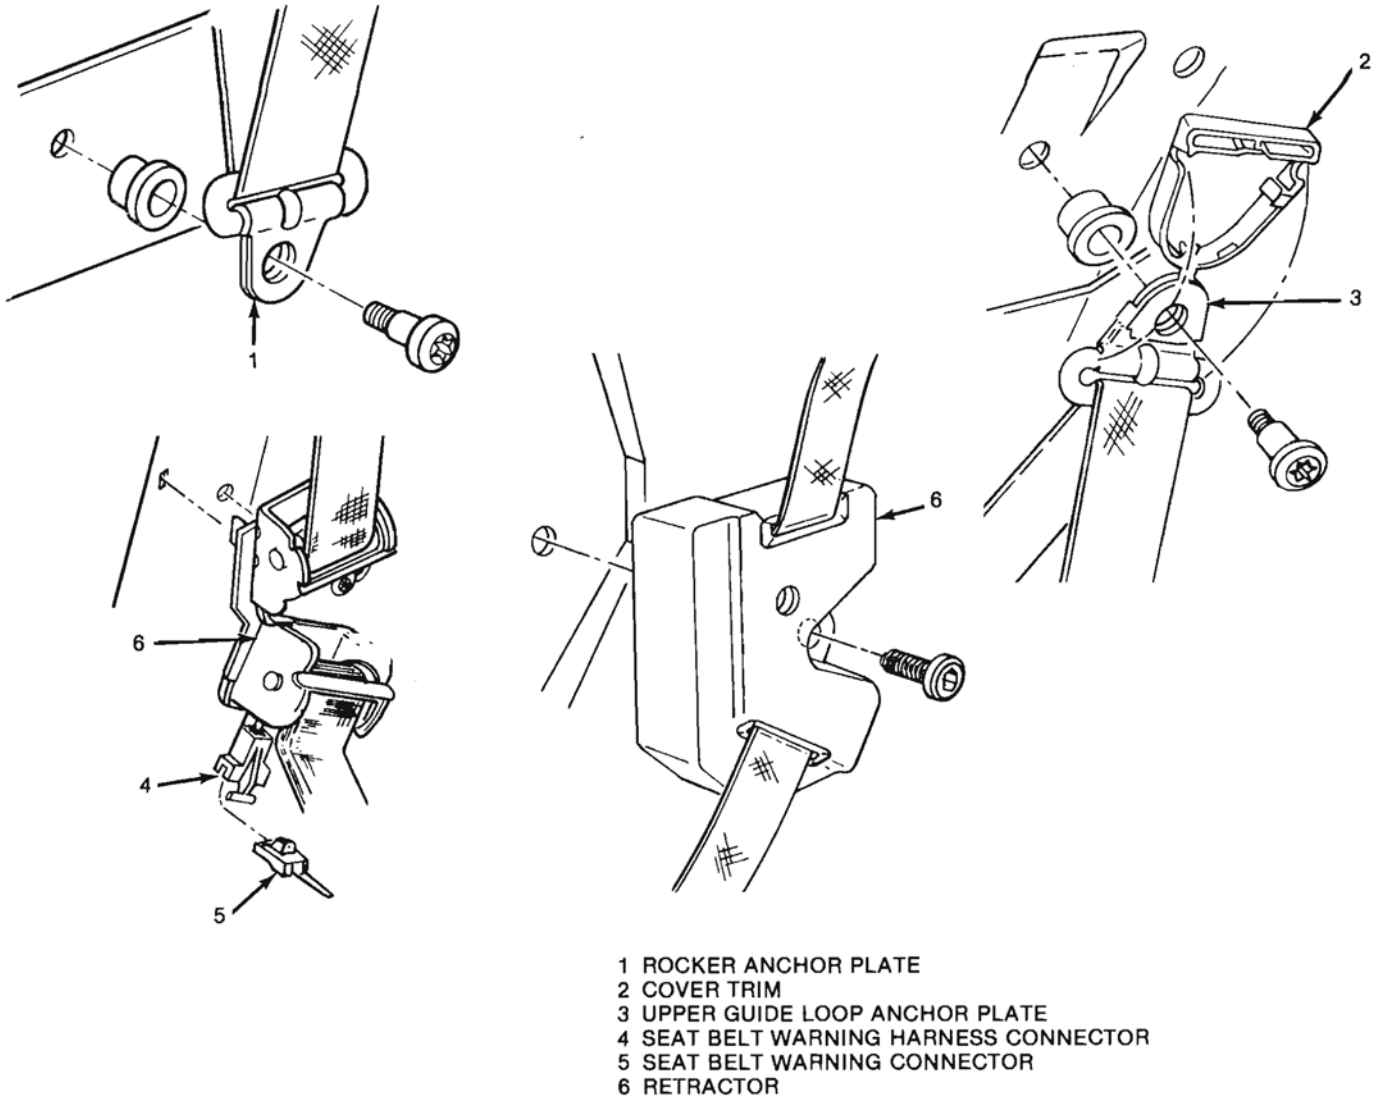

Fig. 2 Single Loop Belt System
- Do not attempt repairs on lap or shoulder belt retractor mechanisms or belt retractor covers. Replace with new service replacement parts. Refer to Figures 2 through 5 and tighten **all** seat and shoulder belt anchor bolts as specified.
↔ Remove or Disconnect (Figures 2, 3)
↔ Install or Connect (Figures 2, 3)